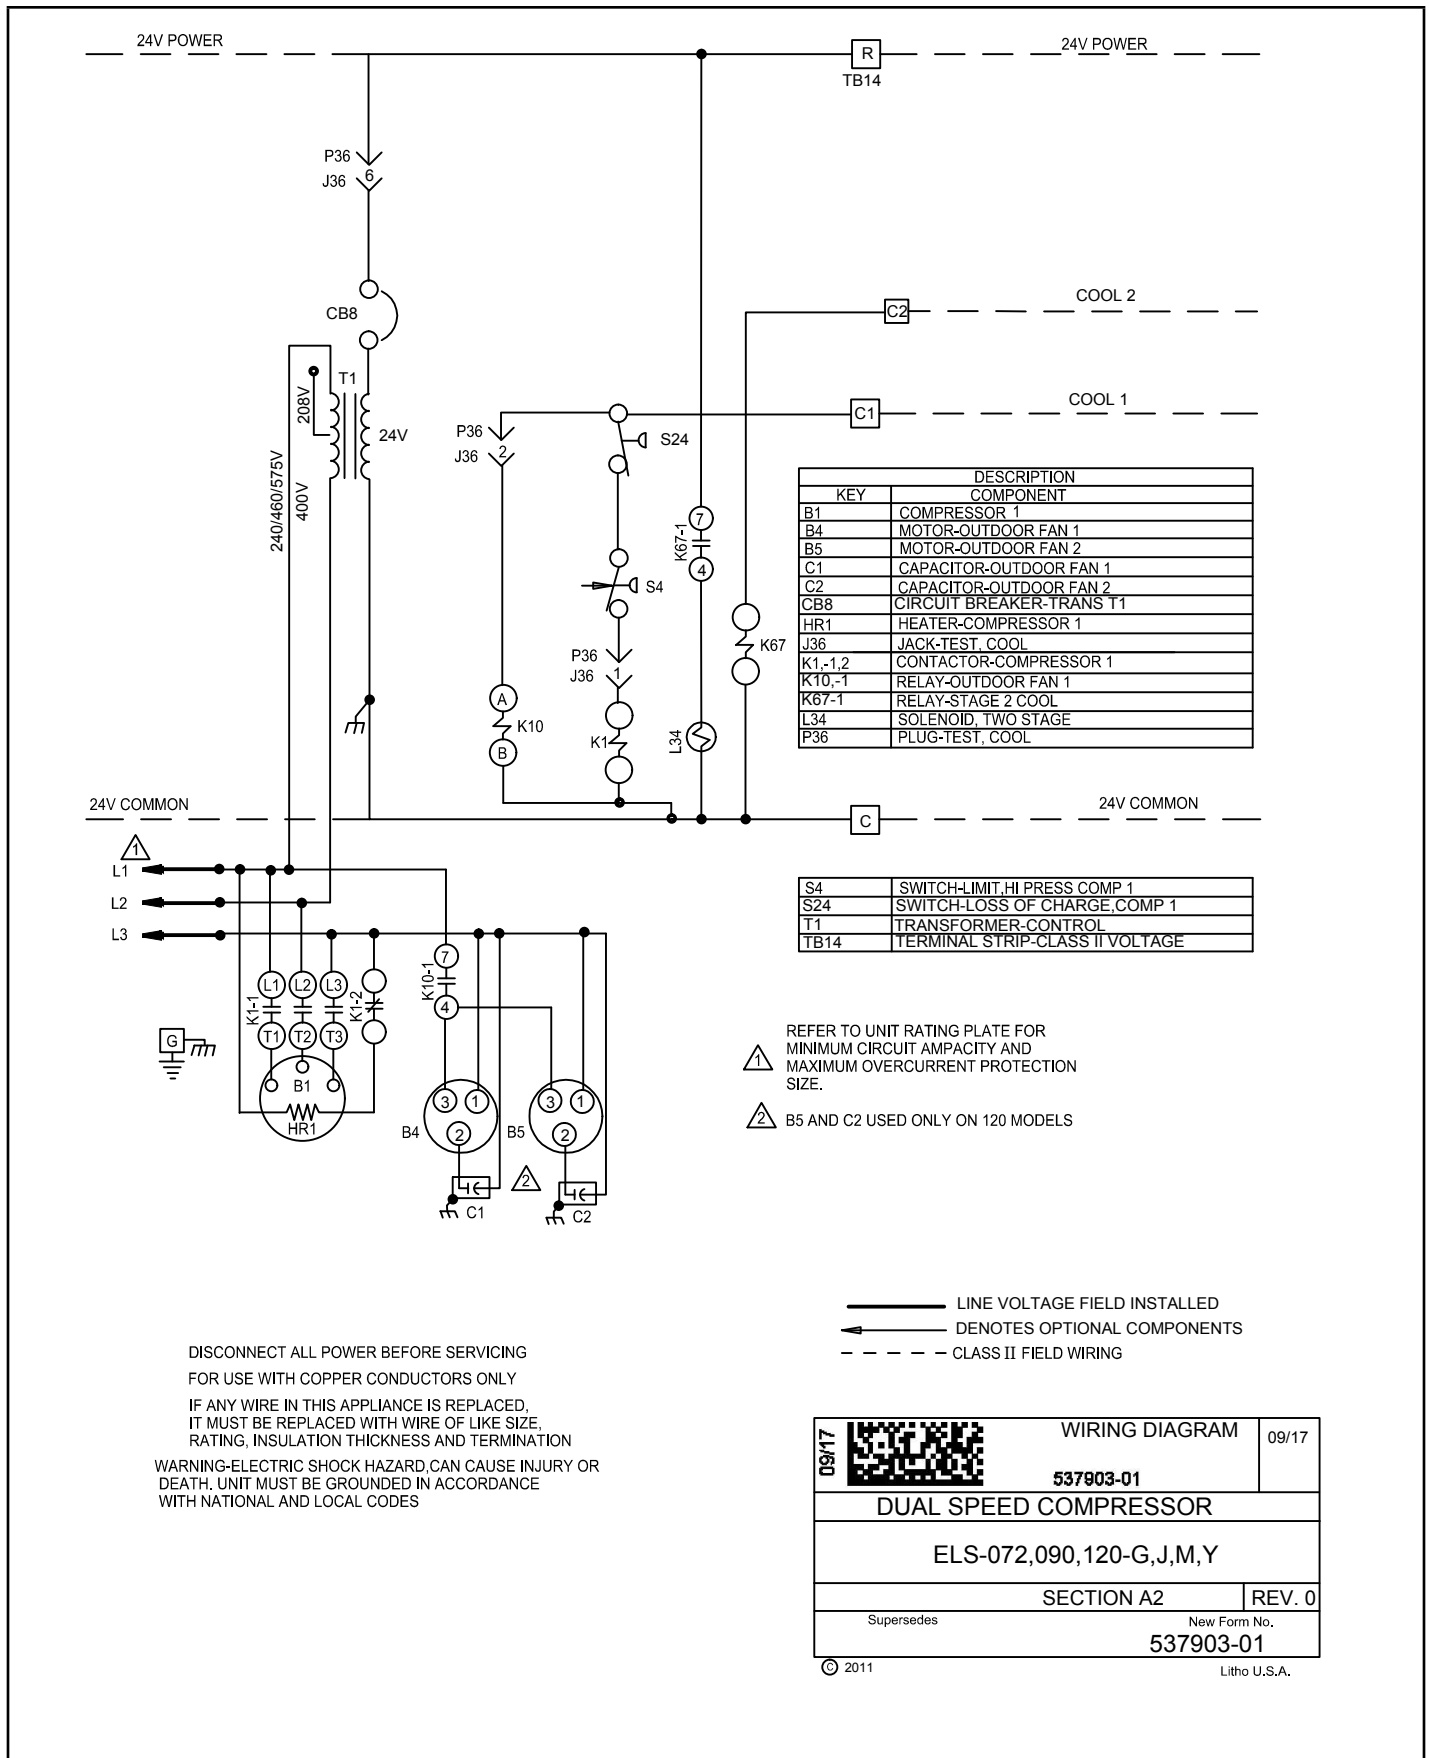

FIGURE 7. Typical Wiring Diagram – ELS072S4S, ELS090S4S and ELS120S4S (G, J, M, Y Voltages)
- C MAKE CONTROL WIRE CONNECTIONS USING FIELD PROVIDED WIRE NUTS. SEE FIGURES 7 THROUGH 10 FOR CONNECTION REQUIREMENTS.